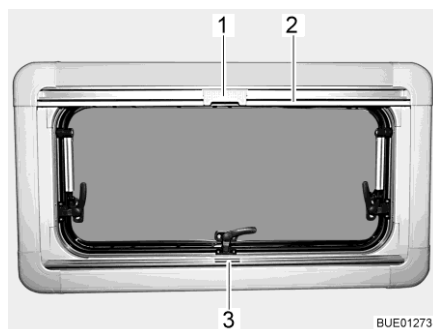
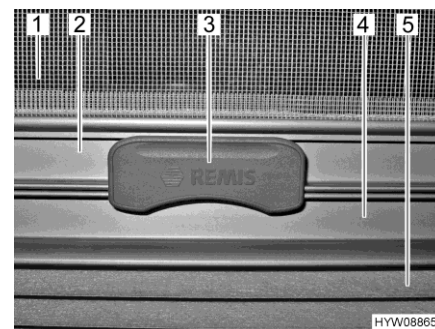

Fig. 16 Hinged window
Fig. 17 Catch
**Roman shade** The Roman shade (Fig. 17,5) is located in the lower blind box.
*Closing:* ■ Seize the Roman shade by the centre of the holding bar (Fig. 16,3 and Fig. 17,4), pull it from the bottom to the top and release it at the desired height. The Roman shade will stay at this height.
**Insect screen** The insect screen (Fig. 17,1) is located in the upper blind box.
*Closing:* ■ Pull the insect screen down by the holding bar (Fig. 16,2 and Fig. 17,2), until it touches the holding bar of the Roman shade (Fig. 17,4).
■ Clip the catch (Fig. 16,1 and Fig. 17,3) on the insect screen into the holding bar of the Roman shade. When the catch is locked, the Roman shade and the insect screen can be adjusted together.
*Opening:* ■ Push the catch (Fig. 17,3) on the insect screen upward.
■ Move the insect screen back slowly on the holding bar (Fig. 16,2).